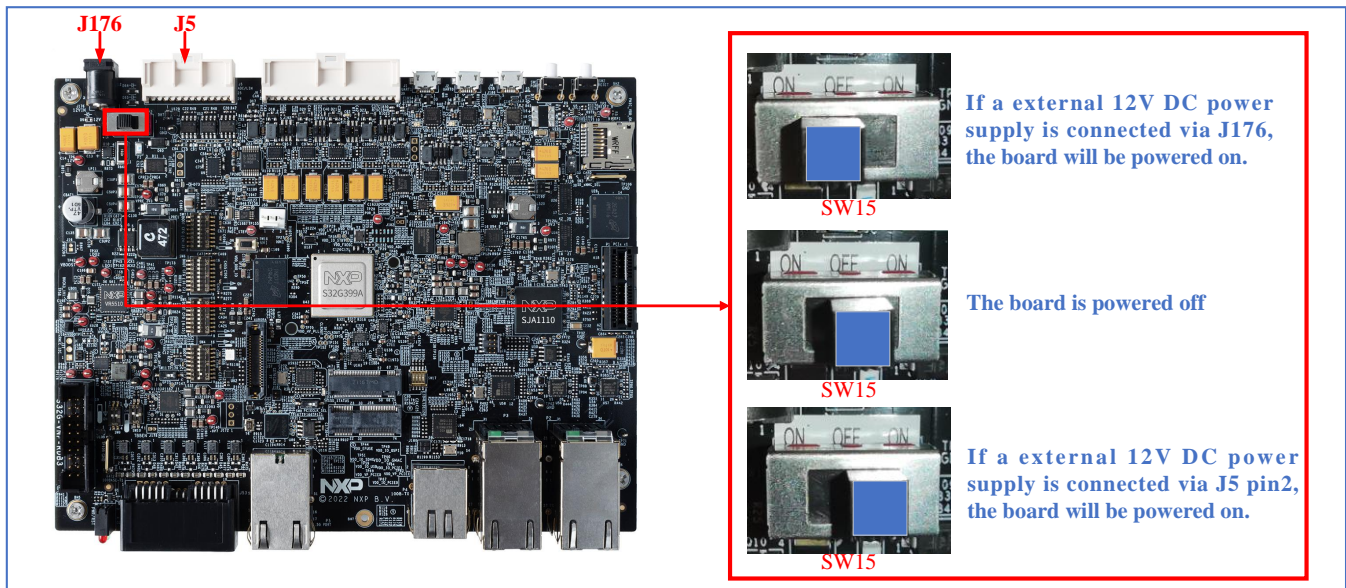

Figure 3.2 Power selection switch setting
Figure 3.2 shows the switch setting for power selection.
6. Connect power supply through J176 port described in Table 4.1. Turn on the power switch(refer to figure 3.2), the running logs will appear in the console as shown in Figure 5.2.